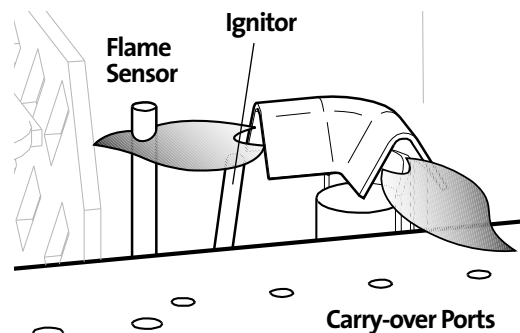

Figure 36. Correct Pilot flame pattern.
5. **PILOT FLAME:** The pilot flame should be steady - not lifting or floating. The flame should be blue in color around the pilot hood, with traces of yellow toward the outer edges. It is important that the pilot flame engulf the top 1/8" of the flame sensor. The pilot flame should project out of the pilot hood 1" from both ports extending to reach the burner plate ports. See fig. 36. The pilot flame can be tuned by turning the adjustment screw located on the front of the valve. See fig. 20.